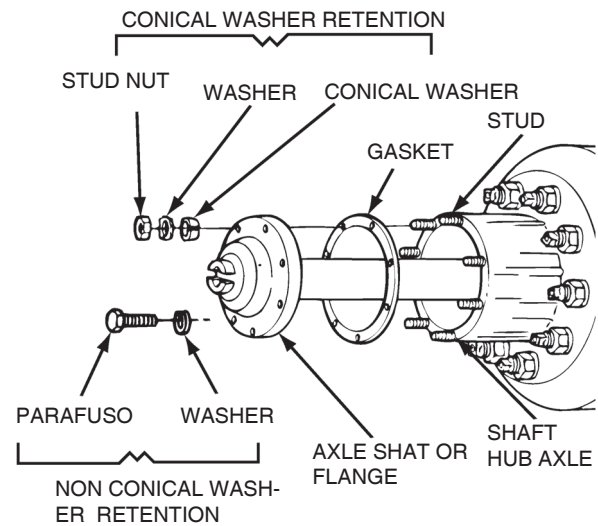

Figure 11.4
6. Remove the stud nuts or capscrews and the washers from the flange of the axle shaf. FIGURE 11.4.
7. Loosen conical washers , from the flange of the axle shaf,if used. Figure 11.4. See the Section 3.
9. Remove the conical washer, gasket, IF used, and axle shaft Figure 11.4.
5. Install the gasket, if used, and axle shaft into the axle housing and differential in the same location. The gasket and flange of the axle shaft must be flat against the hub. Rotate the axle shaft or the driveline as necessary to align the splines and the holes in the flange with the studs in the hub. Figure 11.4.